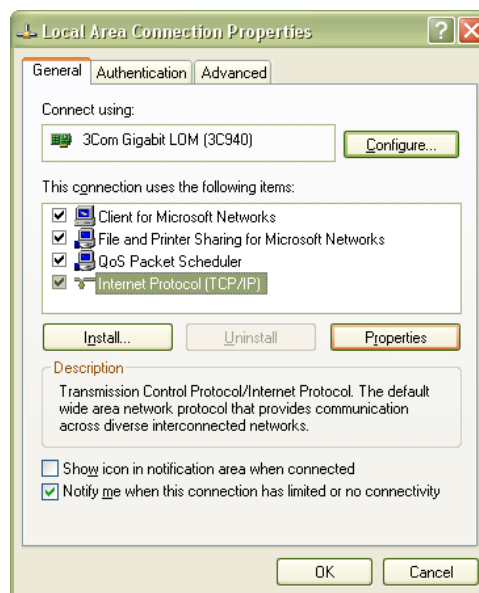

FIGURE 2-11: LOCAL AREA CONNECTION PROPERTIES DIALOG BOX
- 4) Select **Internet Protocol (TCP/IP)**, then click the **Properties** button as shown in Figure 2-11.